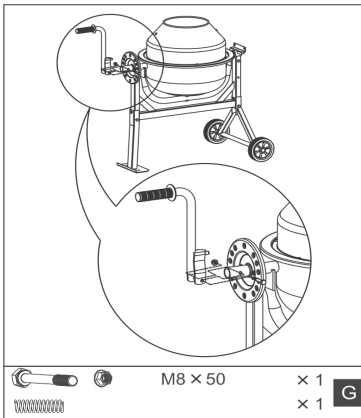

Fig.11
Place the spring in the open end of the swing lever. One person pushes the swing lever with a spring onto the shaft until connection holes are visible, another person pushes the screw through the swing lever and shaft. Fix the screw (G), Fig.11.